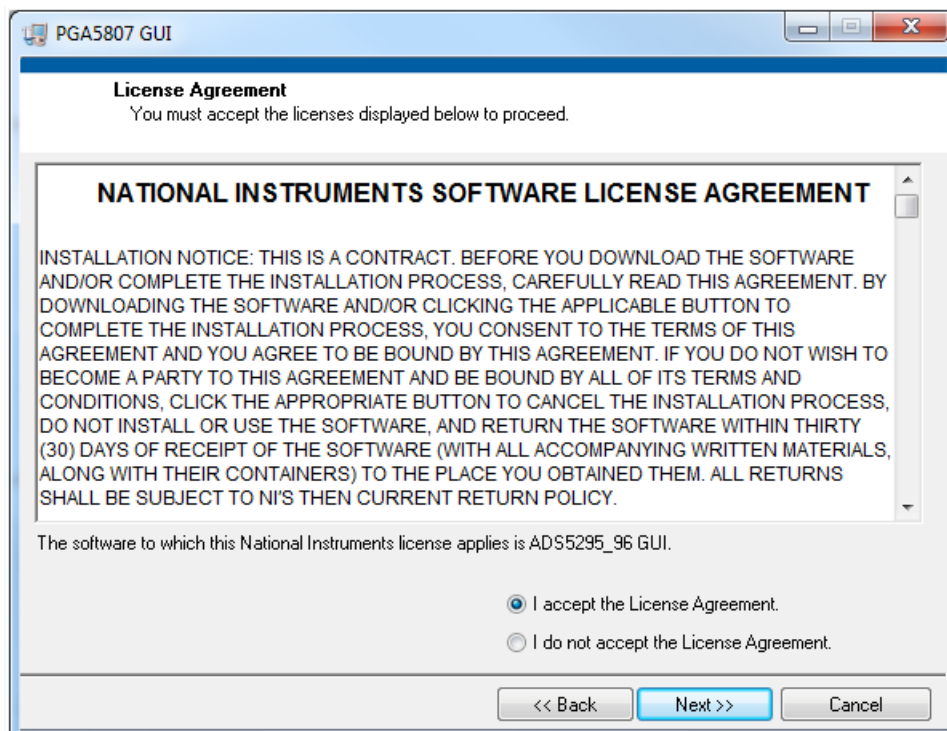

Figure 14. PGA5807 GUI Install (d)
- Read the License Agreement from National Instruments and select the *I accept the License Agreement* button and then press the *Next* button as shown in Figure 14.